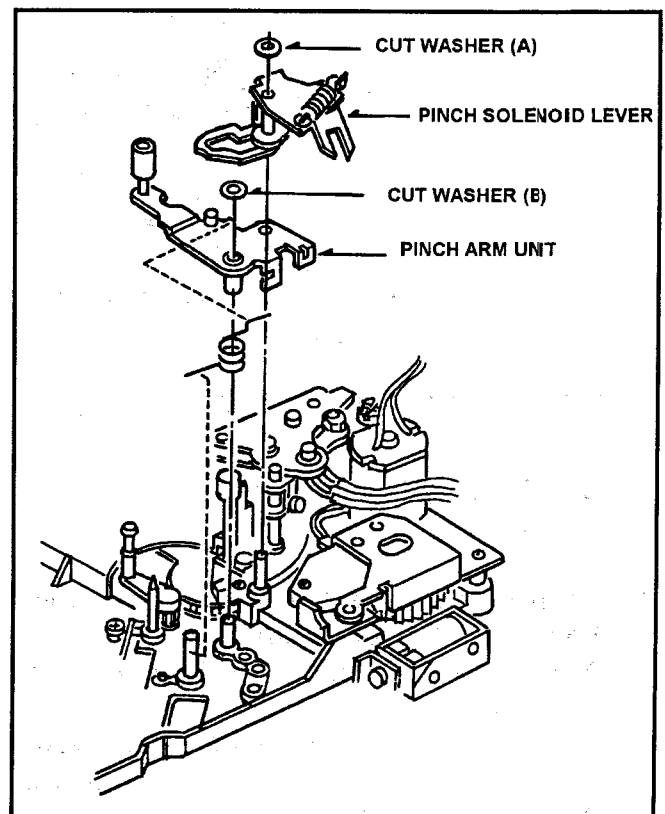

Fig. 8-5-1 Removal of Pinch Arm Unit
4. Remove the Pinch Solenoid Unit (Refer to item 8-9, and pull up the Pinch Solenoid Lever as shown in Figure 8-5-1.
5. Remove the **cut washer (A)** to remove the Pinch Solenoid Lever as shown in Figure 8-5-1.
6. Remove the **cut washer (B)** to remove the Pinch Arm Unit as shown in Figure 8-5-1.